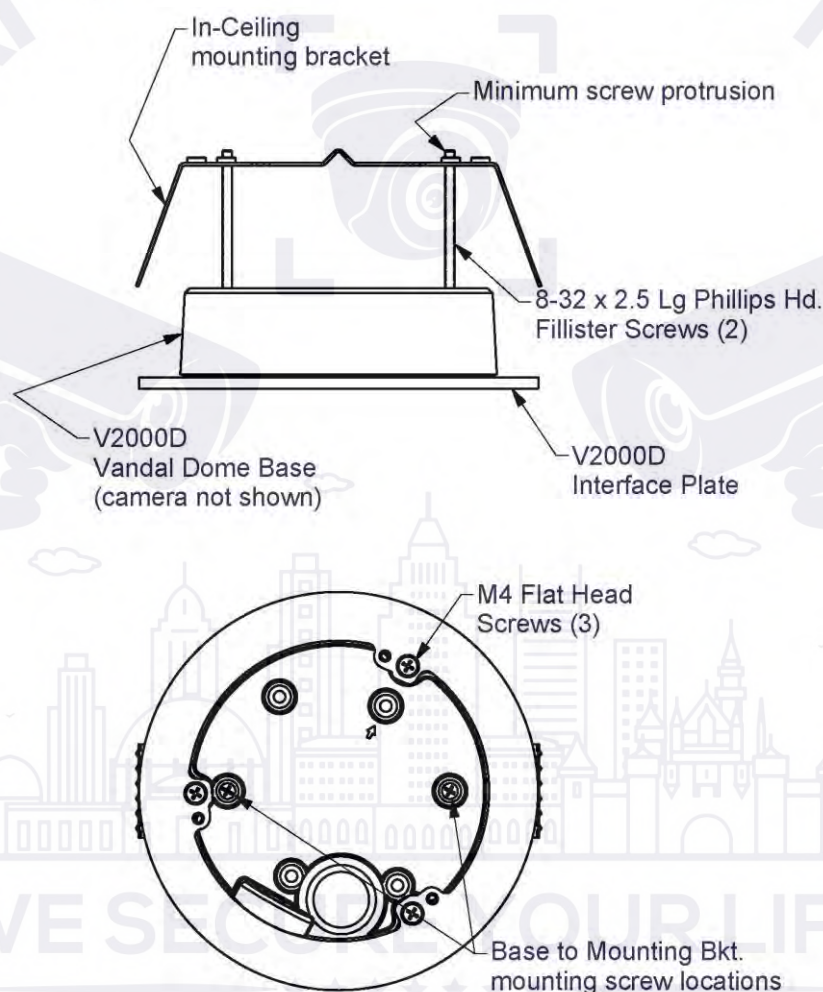

Figure 2
5. Secure the V2000D assembly with interface plate to the mounting bracket using two (2) of the six mounting holes in the V2000D base with the 8-32 fillister head screws provided. Attach the bracket to base in a way that only a short portion of the screws protrude through the bracket. Refer to Figure 2.